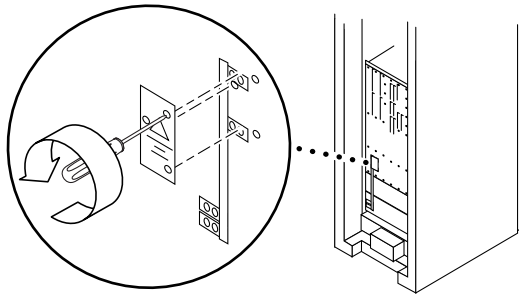

FIGURE 12-16 Removing the Screws Securing the Cover to the Bus Bar and Removing the Bus Bar Insulator—Sun Fire 4810 System
8. Remove the three screws securing the cover over the bus bar, and remove the bus bar insulator (FIGURE 12-16).
3. Replace the three screws securing the protective cover over the bus bar (FIGURE 12-16).